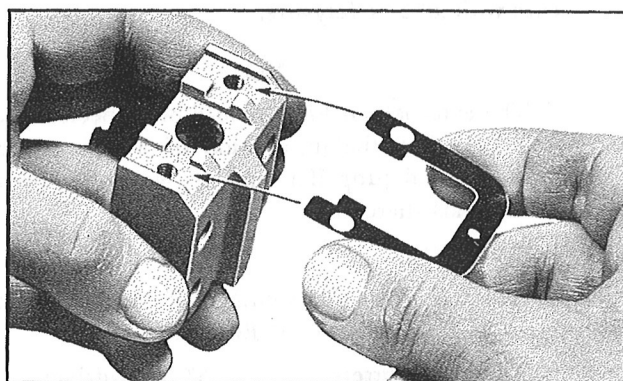

Figure 234—Installation of Lever Locating Spring
*Step 3.*—Place the flat lever locating spring on the governor housing so that the open side of the spring faces in the direction of the mounting face of the governor body, as shown in Figure 234. Press the spring firmly into place.